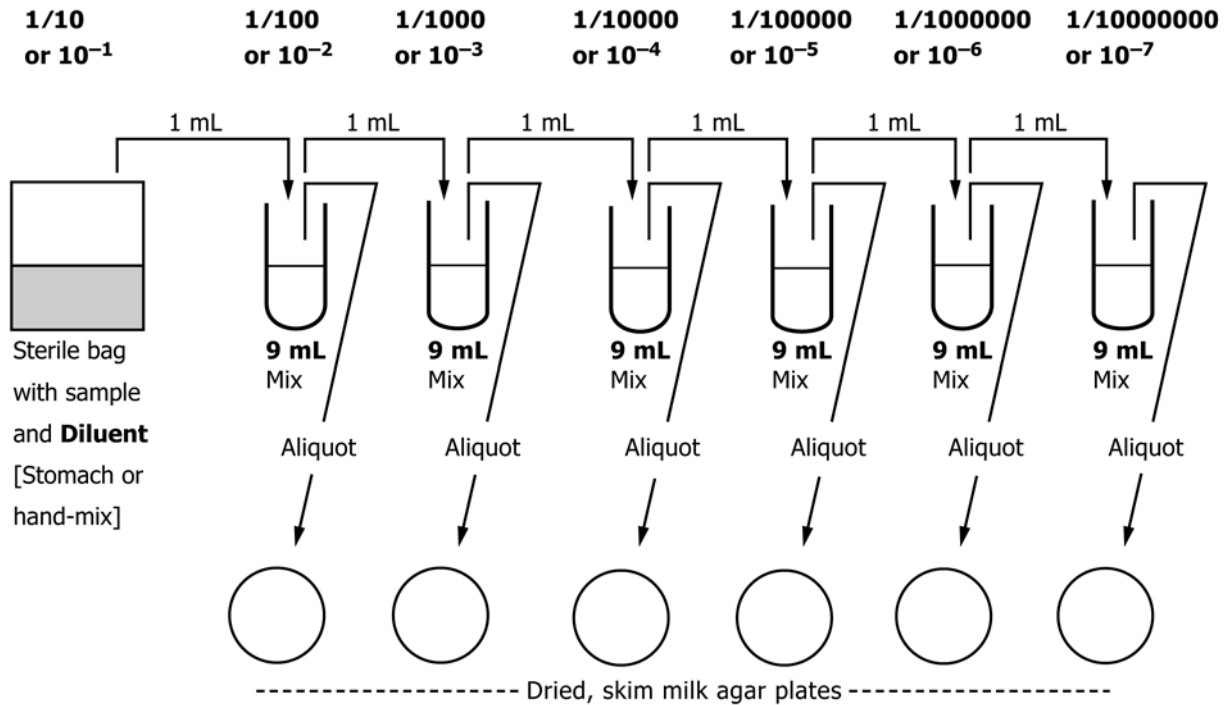

FIG. 1 Plating
10.3 Prepare the following sample dilutions using 9-mL dilution tubes (BPD w/salt):  $10^{-2}$ ,  $10^{-3}$ ,  $10^{-4}$ ,  $10^{-5}$ ,  $10^{-6}$ , and  $10^{-7}$  (see Fig. 1).